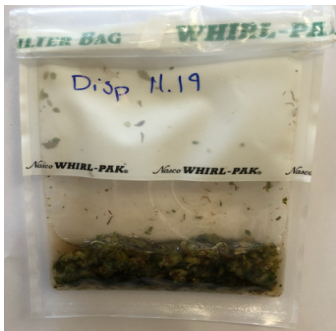

Figure 3: Homogenized cannabis flower and TSB.
11. If processing multiple samples, be sure to change gloves between each sample to ensure that there is no cross contamination between samples during the weighing process. See flower example in Figure 3.